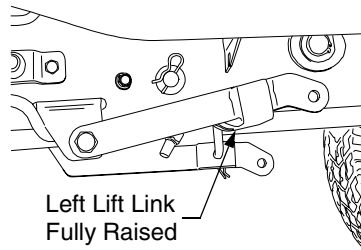

Figure 37
6. Use the hydraulic lift to fully raise the LH and RH lift links (See Figure 37). Stop the engine.